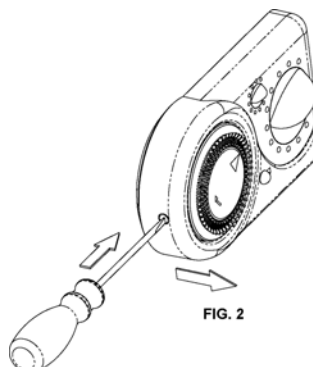

FIG. 2
1. With the help of a screwdriver apply a slight pressure in the hole located on the clock side, as shown in fig. 2, then pull the plastic cover, thus opening the appliance.